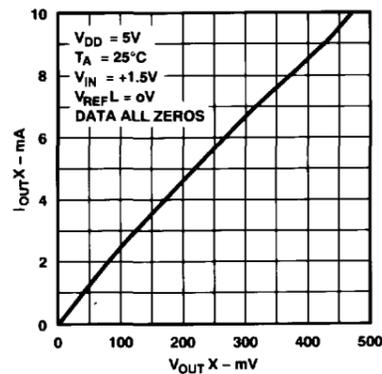

Figure 9. Zero-Scale Output Detail
**Operation Near ground** – The input stage of the internal buffer amplifier functions down to ground, but the output stage cannot pull lower than the internal ground voltage. When a DAC output tries to output a voltage at or below the internal ground potential, it saturates and appears like a  $50 \Omega$  resistor to ground. The typical saturation voltage appearing at the output is 20 mV, see Figure 9. The 100 mV worst case zero-scale voltage specification reflects this saturation effect, including the worst case anticipated variation of the internal ground resistances, quiescent currents and buffer sinking current. Linearity is measured between code  $8_{10}$  and code  $255_{10}$  to avoid this saturation effect. In summary, the transfer function of each DAC will be a straight line from code 8 to code 255 when  $V_{REF L} = 0 V$ . For input codes 0 to 7, some DAC outputs will be saturated in the zero-scale output voltage region; therefore, changing digital code 0 to 1 may not change the output voltage when  $V_{REF L} = 0 V$ .